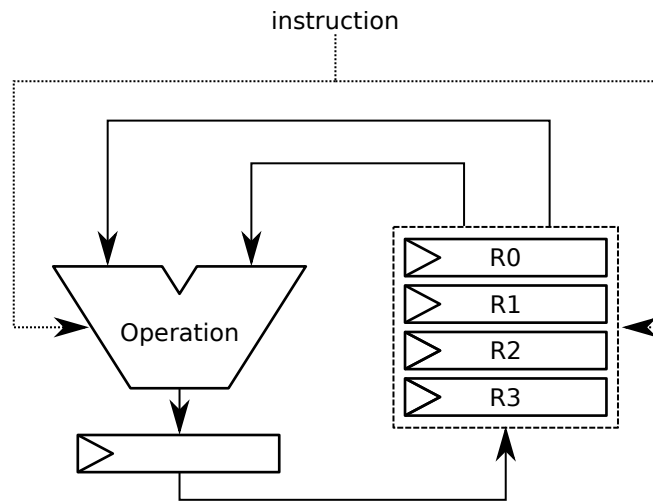

Figure 2: Pipelined ALU sketch
2. What would have to change if we added a pipeline stage right after the ALU operations in hardware as shown in Figure 2, i.e. before a value is written back to *Rd*. Assuming, given the same program, the same output should be generated.